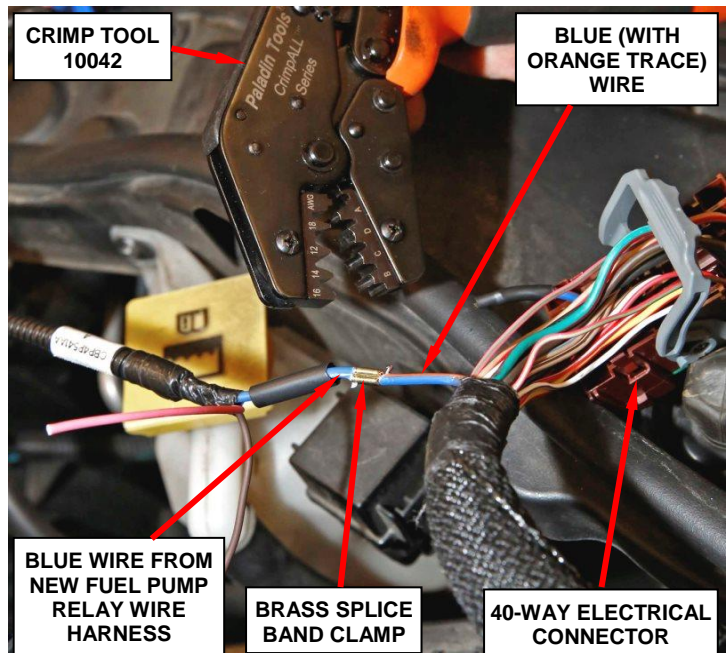

Figure 15 - Crimp and Solder Blue Wire to Blue Wire (with Orange Trace)
c. Using the supplied brass splice band clamps and crimp tool 10042, crimp the wire that had the insulation stripped on the wire harness side to the matching color wire on the fuel pump relay wire harness (Figure 15).
d. Solder the brass splice band clamp with rosin core solder (Figure 15).